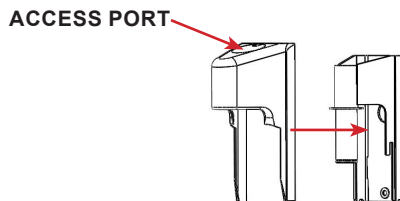

FIGURE 2.6 - Outer Cover
For outlet plug installations, follow the same steps while routing the cable through the top of the base plate. The plug will have to be fed through the outer plate cover access port. Refer to FIGURE 2.6
- STEP 10:** Reinstall the outer plastic cover onto the base plate. Refer to FIGURE 2.6
- STEP 11:** Feed the outlet plug through the top access port if required. Refer to FIGURE 2.6